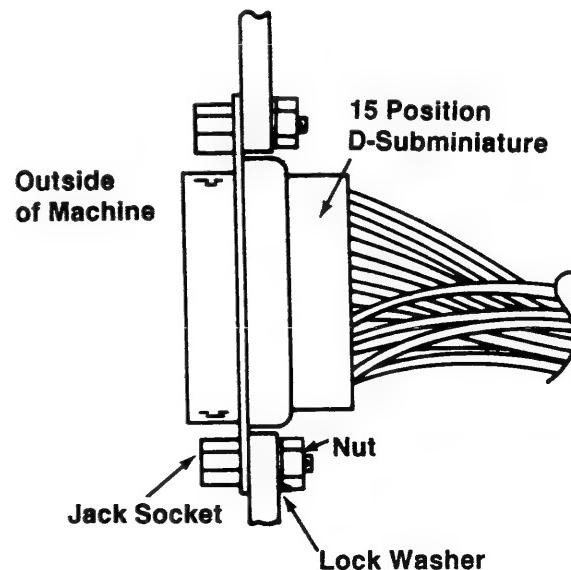

Figure 2-3.2I
25. Tape the Traverse Bracket (Figure 2-3.2I) if necessary to prevent damage to the insulation of the Wiring Harness.
27. Secure the 15 position D-Subminiature Connector P103B of the 654 Photo Sense Harness in the "Knockout" area of the Base of the M-654 with a Jacksocket, Lock Washer, and Nut Kit (Item 16). See Figures 2-3.2I and 2-3.2J. Discard the Plain Washers.